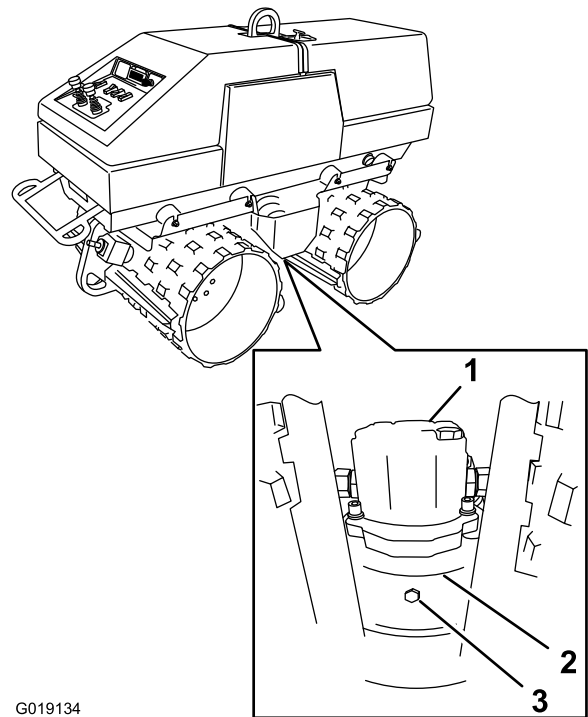

Figure 77
1. Locate the hydraulic motor for the eccentric at the right-lower exterior of the machine (Figure 77).
2. Locate the eccentric-motor cap on which hydraulic motor mounts (Figure 77).
4. Remove the drain plug from the bottom of the eccentric-motor cap and allow the oil to drain (Figure 77).
6. Install the drain plug into the drain hole of the eccentric-motor cap (Figure 77).